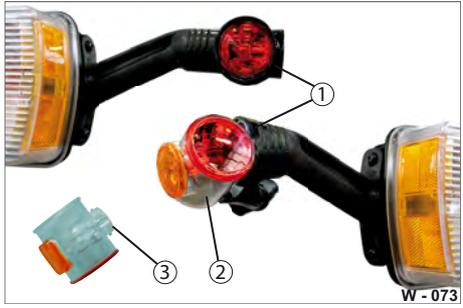
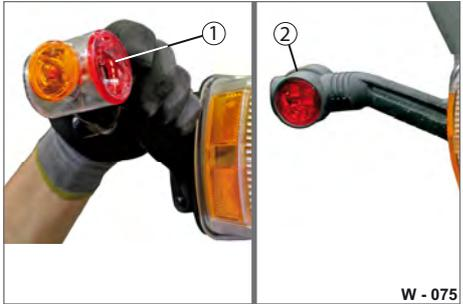

Fig. 71 Removing the rubber arm
Fig. 73 Turning up rubber arm
- ▶ Spray an ample amount of silicon spray on rubber arm coating (Fig. 71/1) - this makes turning up and down easier.
- ▶ Remove the rubber arm coating (Fig. 71/1) from the lamp (Fig. 71/2) using a slotted screwdriver.
- ▶ Loosen the screw connection (Fig. 71/3) and remove the lamp (Fig. 71/2).
- ▶ Screw on the lamp (Fig. 73/1) with the screw fitting (Fig. 71/3). Ensure that the seal is fitted correctly.
- ▶ Put the rubber arm (Fig. 73/2) over the lamp.